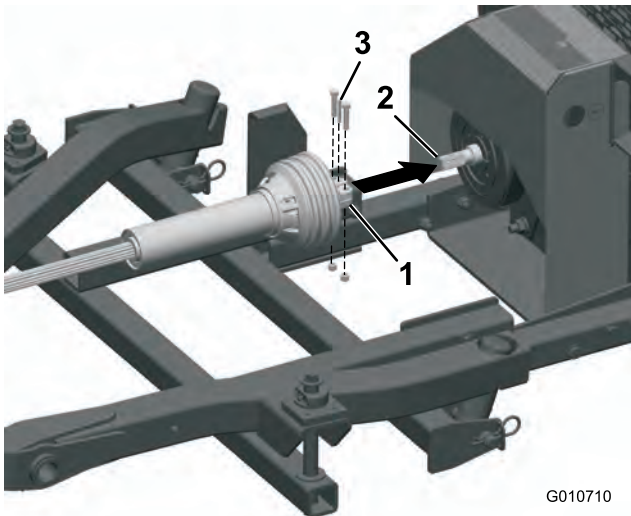

Figure 4
7. Install the end of the shaft onto the drive shaft of the blower, securing it with a roll pin and 2 bolts (5/16 x 1-1/2 inches) and locknuts (5/16 inch) (Figure 4). Torque the bolts and nuts to 200 in-lb (22.5 N-m).